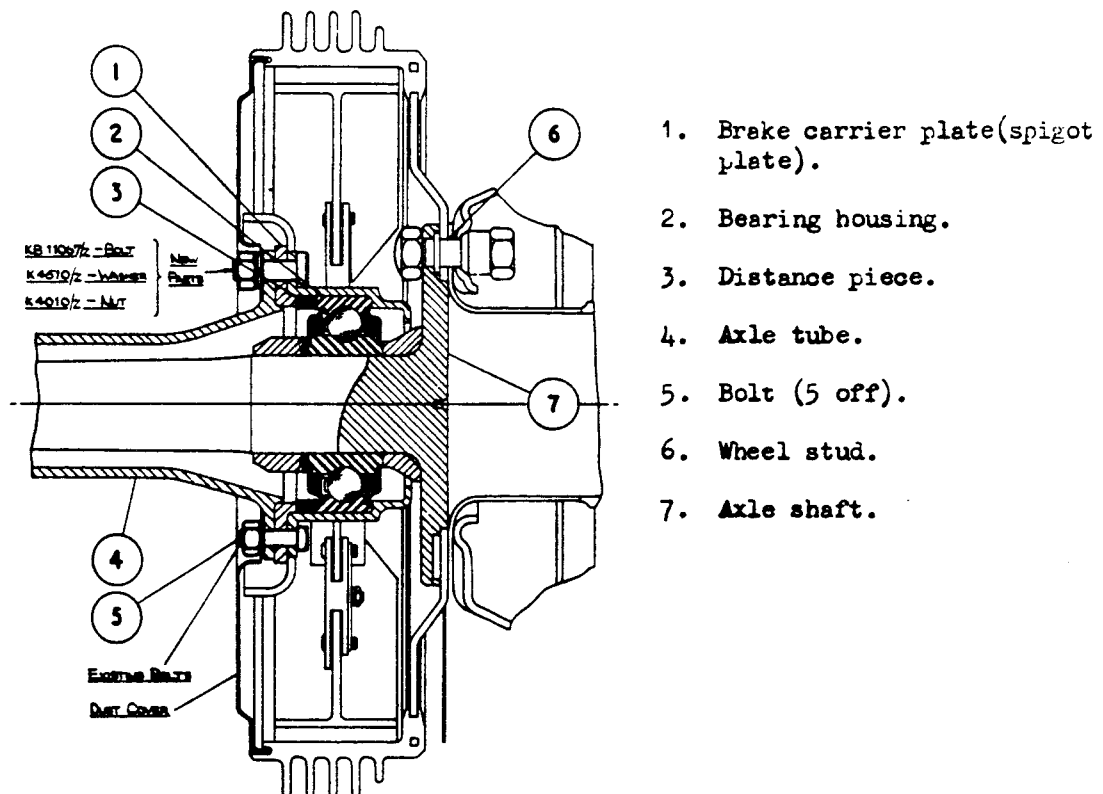

FIG. 1.
It has been decided to fit 3/8" diameter bolts as shown on Fig.1, in place of the existing 5/16" diameter bolts (5) which retain the rear axle shaft bearing housing (2) and the brake carrier plate (1) to the axle tube. It has also been decided that opportunity should be taken to reverse the equal wear brake linkage of the rear brakes and fit the stiffened linkage which consists of a new push rod and jaw.